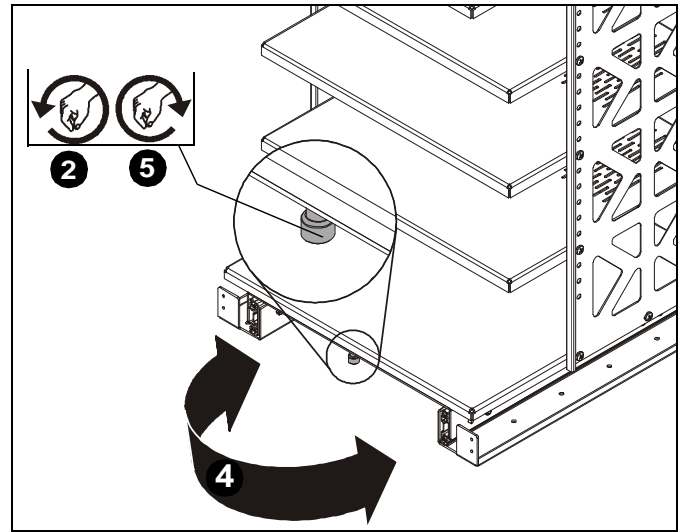

Figure 7
- STROTR ONLY:** Unlock the thumbscrew in the STROTR front. (See Figure 7)
- STROTR ONLY:** Tighten thumbscrew to keep from swiveling. (See Figure 7)